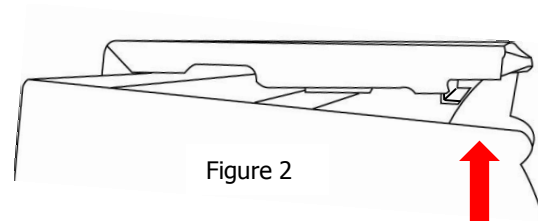

Figure 2
- Lift the front of the headrail so that the clips on the front of the head rail lock into place (Figure 2)